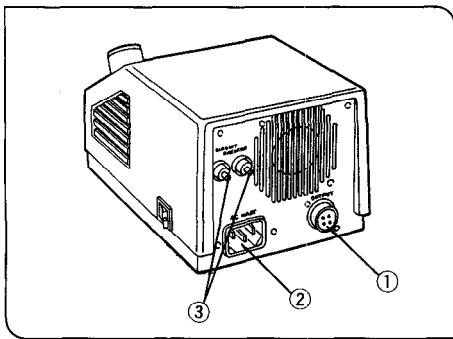

Fig. 24
(Fig. 24)
1. Connect the lamp housing cord connector to the output connector ① on the power supply unit. (Fig. 24)
2. Connect one end of power cord to the AC power cord receptacle ②, and the other end to an AC outlet.